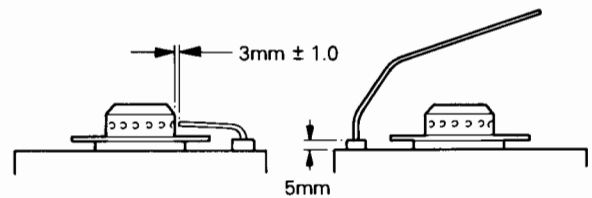

FIG. 14
4. Fit new electrode in reverse order, set gap and position (See Fig.14).
4. Fit new sensing probe in reverse order, set gap and position (See Fig. 14).